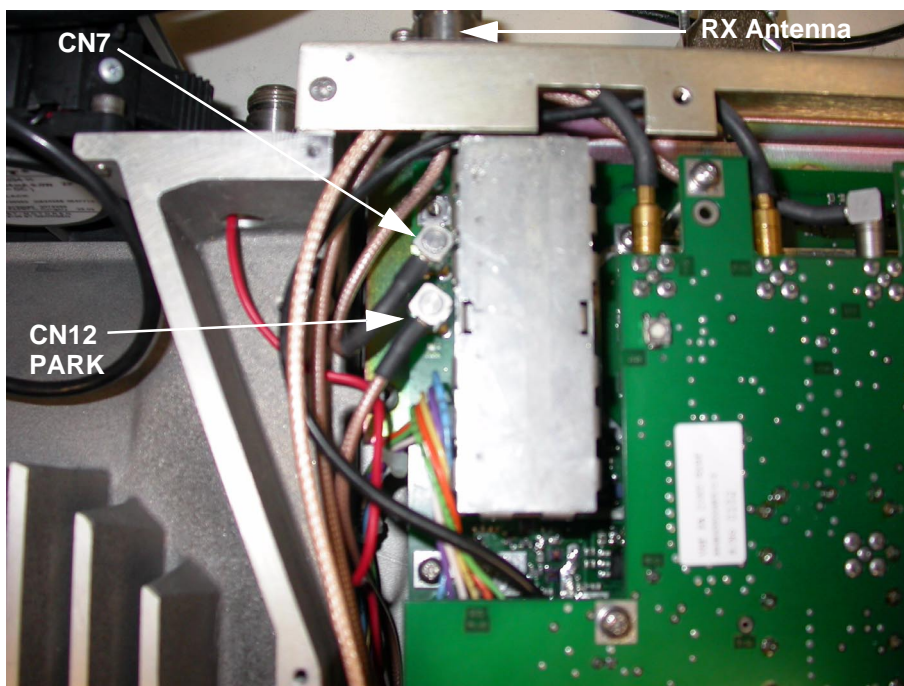

Fig 2 Antenna Configuration
- (1) Remove the 15 captive screws securing the bottom cover to the mainframe.
- (2) With the cover removed locate the PA Control/Rx RF module.
- (3) Locate CN7 and CN12 on the PA Control/Rx RF module (see Fig 2).
- (4) For single antenna configuration, connect the Rx antenna RF cable to CN12 (Park). Connect the adjacent RF cable from the PA module to CN7.
- (5) For dual antenna configuration, connect the Rx antenna RF cable to CN7. Connect the adjacent RF cable from the PA module to CN12 (Park).